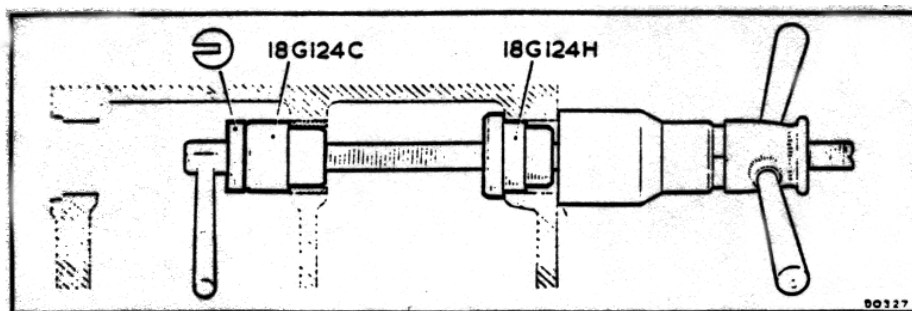

Fig. 3
3. Withdraw the centre bearing liner, using the tools shown in Fig. 3.